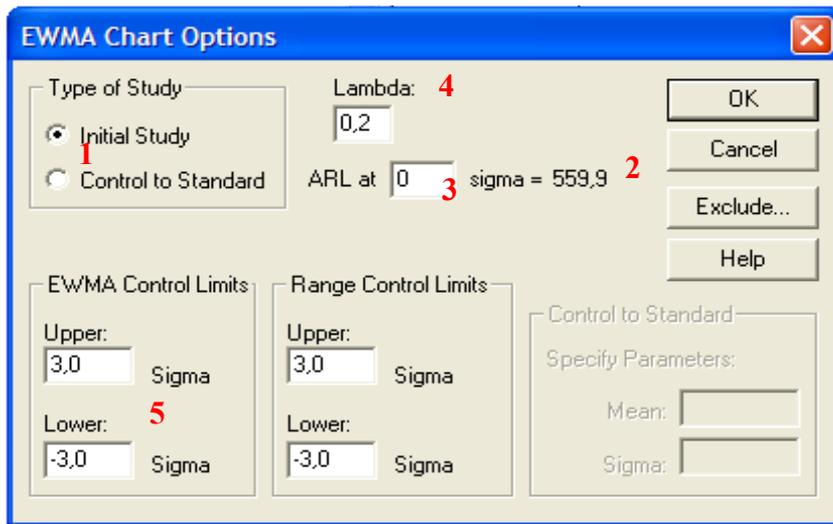
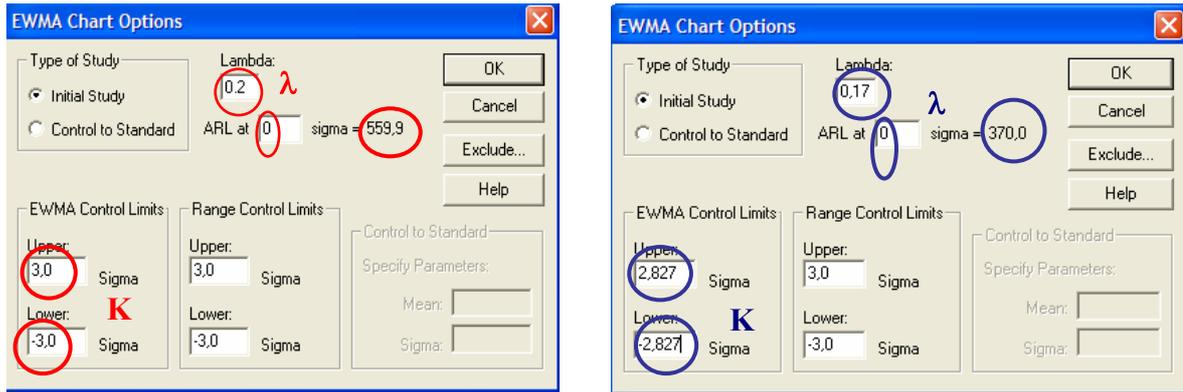

Fig. 4 - Chart Options dialog box
Figure 5 - Influence of changes of lambda and upper and lower sigma for setting EWMA control limits K on the value of ARL
On the left we can read information about UCL, CL and LCL, the number of observations beyond the limits, the number of observations, and the number of observations excluded from the study (initial study or control to standard study). This report also provides information about values of parameters λ and K , estimates for the process mean, process sigma and mean range. Some user will be satisfied with this result in spite of the fact that he does not know what it is initial study or control to standard study, where to select type of the study, why system works with such values λ and K , what is ARL performance of this chart and so on. Answers to this questions and possibility to change design of the EWMA chart we can find in the EWMA Chart Options. This dialog box is available from all the tabular and graphical panes using the right mouse (Fig. 4).
When we want to compute $ARL(0)$ in the EWMA Chart Options dialog box we must have number 0 in the field signed with the red number 3 in Fig. 4. When we want to compute $ARL(\delta)$, we must enter into this field the value of δ . δ is a size of the shift expressed in the process sigma σ which we want to detect as soon as possible (critical size of the shift). Its magnitude will likely depend on factors such as a process capability relative to specifications and costs of adjusting the process [1]. As we can see on Fig. 5, values of ARL change with changes of lambda λ and upper and lower sigma constant K for setting EWMA control limits.
Combination of $\lambda = 0,2$ and $K = 3$ gives $ARL(0)$ nearly 560 (see the dialog box on the left on Fig. 5), combination of $\lambda = 0,17$ and $K = 2,827$ gives $ARL(0) = 370$ (see the dialog box on the right on Fig. 5). How to set parameters λ and K will be explained in the next paragraph.
- Enter this optimal λ and K to the EWMA Chart Options dialog box (see Fig. 4, numbers 4,5) and read if this combination gives $ARL(0)$ set in the step 1 (see Fig. 4, number 2).
- Compute $ARL(\delta)$ for the critical shift so that you will change number 0 in the field next to ARL (number 3 in Fig. 4) for δ - the critical shift expressed as a multiple of the process standard deviation σ .